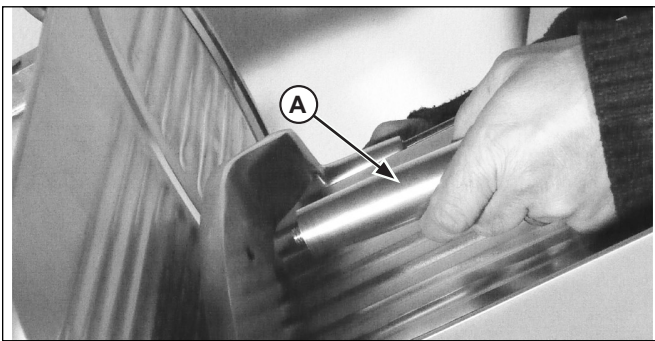

Figure 5. Product Grip Handle
7. Unscrew and remove the product grip handle and clean the product grip (A). Figure 5.
14. Rotate the index control knob is on zero (0) position and wipe the gauge plate starting at the blade and mowing slowly outwards.
15. Install the product holder and tighten the carriage tray knob. See Figure 5 and 6.